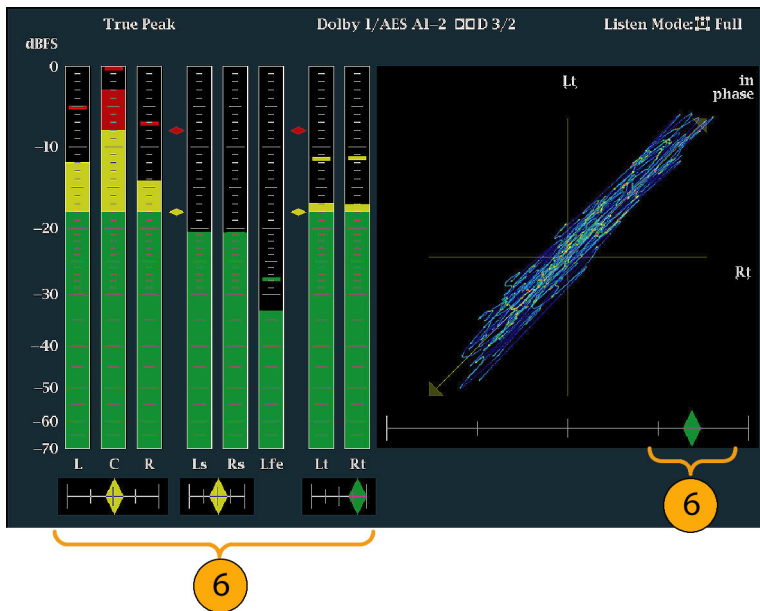

Figure 60: Checking for phase correlation
6. Check for Phase correlation of the signals, noting the following: (See Figure 60.)